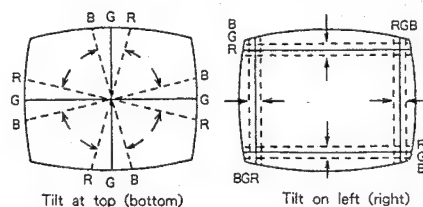

Fig. 1-3
- (1) Move the deflecting coil up/down and to the left/right to adjust the drift at the circumference of the screen. (See Figure 1-3)
- (2) Insert three wedges between the deflecting coil and CRT funnel surface to retain the deflecting coil.